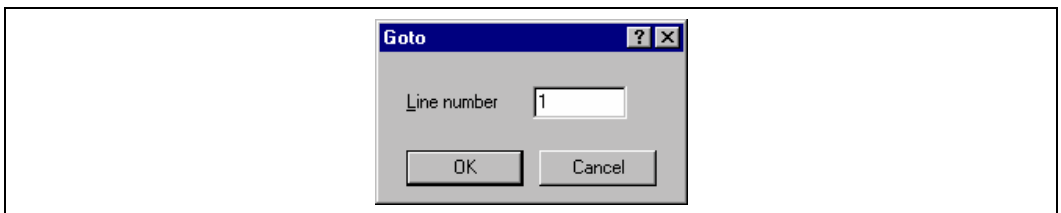

Figure 4.5: Goto Dialog
2. Select [Edit->Goto Line...], press **CTRL+G**, or select [Goto Line...] from the editor window’s local menu. A goto line dialog box will be displayed (figure 4.5).